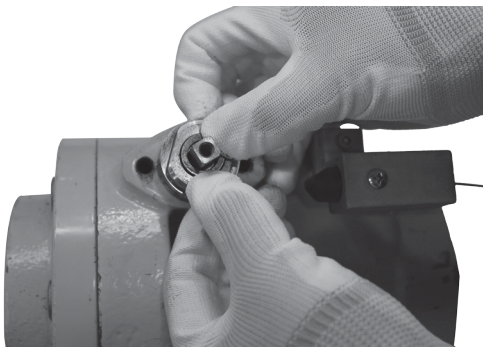

Figure 5. Remove gland (step 6)
6. Still holding the shaft in place, work the gland over the end of shaft to remove the gland, Figure 5.